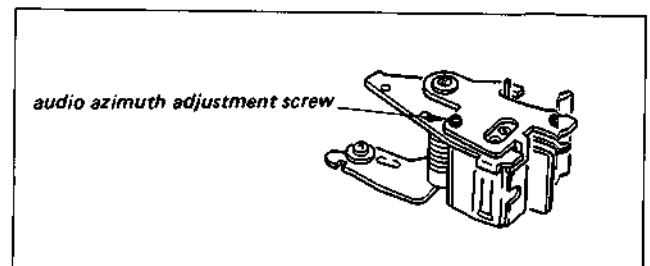

Fig. 4-11
- 2) Turn the azimuth adjustment screw (Fig. 4-11) so that the amplitude of the 5 kHz waveform is maximum.